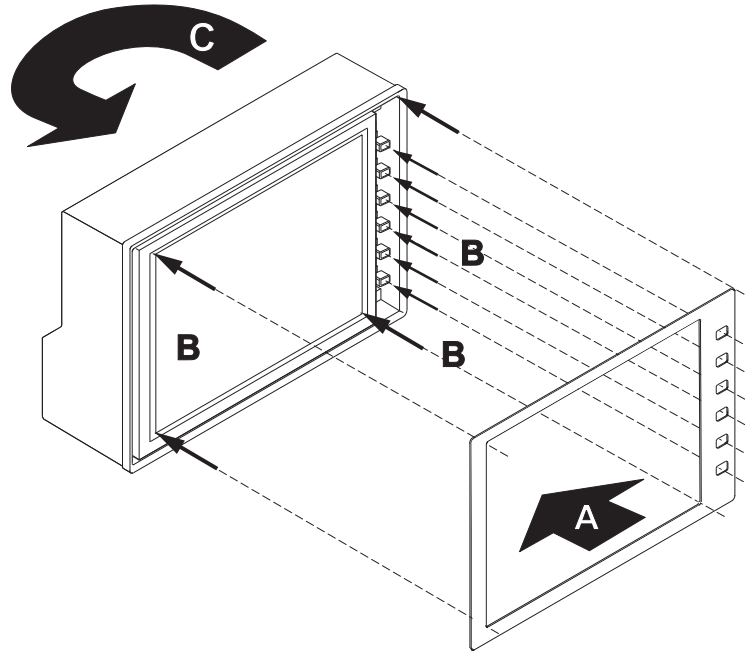

Fig. E 7-8: Placing and fastening the new scale
- Then take the new self-adhesive scale (spare part no. 167217) and remove its protective film from the rear side (A). The six small square holes of the scale must be placed exactly atop the six pushbuttons before fastening the scale (B). Carefully press the scale to the display. Avoid damage of the display or the pushbuttons! Then rotate the unit horizontally back in its previous position (C). (Fig. E 7-8)